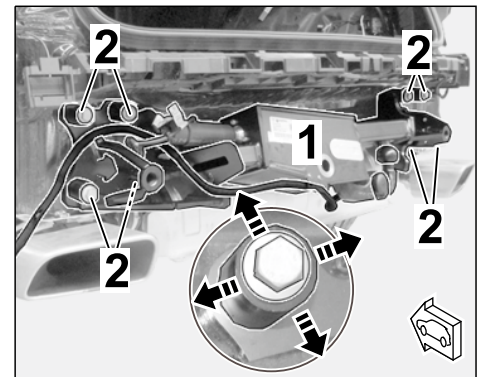

Figure 7
- 2.1.2 Align bolt guides for the trailer hitch (8 x) symmetrically with respect to the 8 bolt heads (M12 x 1.5 x 90) (⇒ *Figure 7 -inset-*).